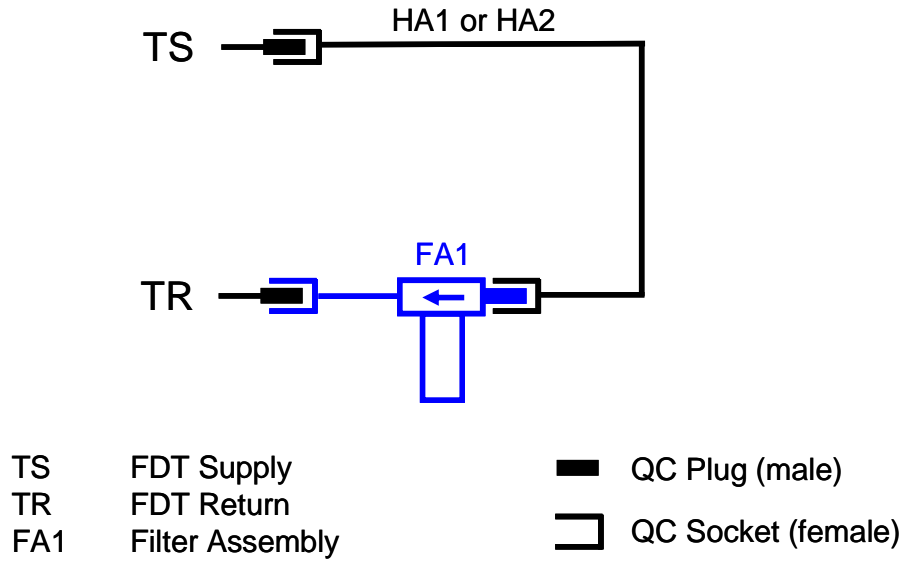

Figure 1: Schematic of filter assembly connected to FDT
17. Figure 1 is a schematic that shows how the filter assembly (FA1) can be attached to the tool source (TS) and tool return (TR) connections on the FDT using hose assemblies HA1 then HA2. The filter is used in this configuration to filter debris and contamination from the FDT and the hose assemblies.